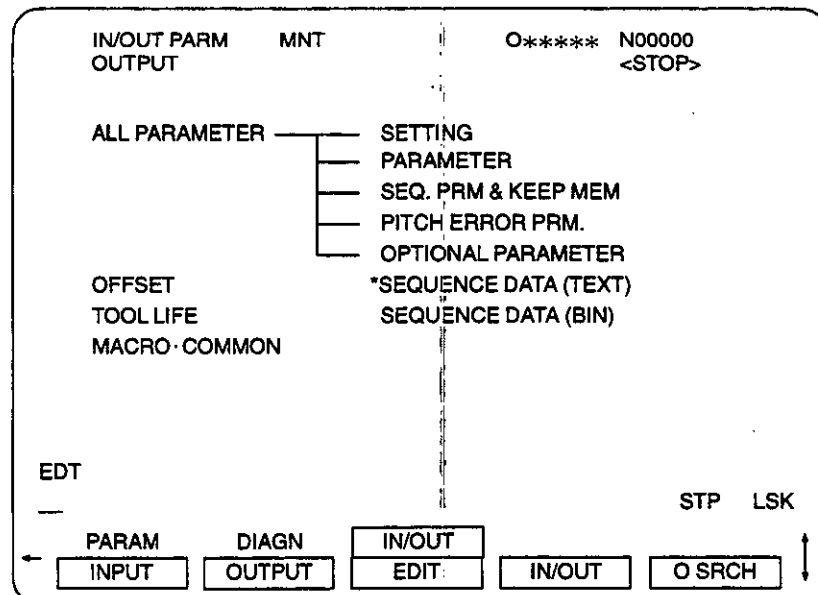

Fig. 8.25 IN/OUT PARM Function Screen
- ① Prepare a PC card having sufficient free area.
- ② Select the maintenance job and select the "SEQUENCE DATA (TEXT)" or "SEQUENCE DATA (BIN)" by the IN/OUT PARM function. See Fig. 8.25.